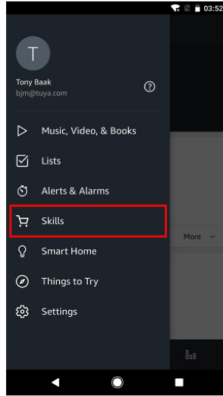
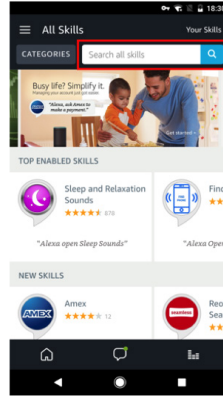

fig.17
fig.18
- Select the Menu option in the top left corner (fig. 17), and then search ‘Smart Life’ (fig. 18). Select ‘igenix’ and tap ‘ENABLE’ to enable the skill.